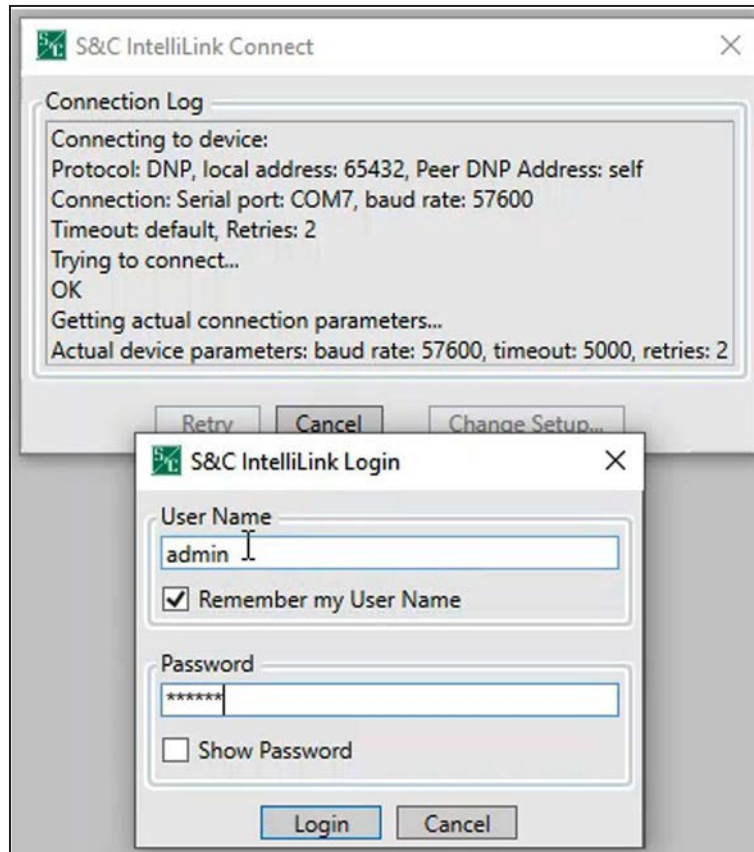

Figure 50. The IntelliLink Login dialog box.
STEP 4. When prompted, enter “admin” for the username and enter the admin password in the password field. See Figure 50.